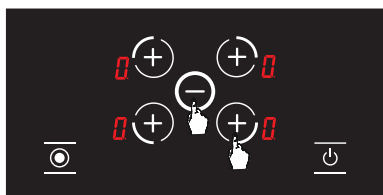

Figure 7
3. Cooking level of the relevant hob may be set from 1 to 9 using the relevant hob key and the key or from to 9 as per the option of the stove. (See Fig. 7)